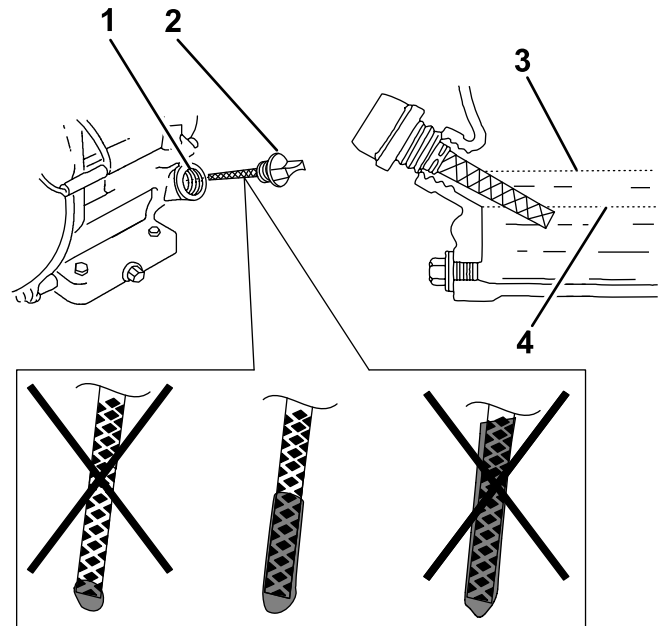

Figure 35
1. Remove the dipstick (Figure 35) and slowly pour oil into the fill hole until the oil reaches the upper-limit mark (bottom edge of the oil-fill hole) on the dipstick.